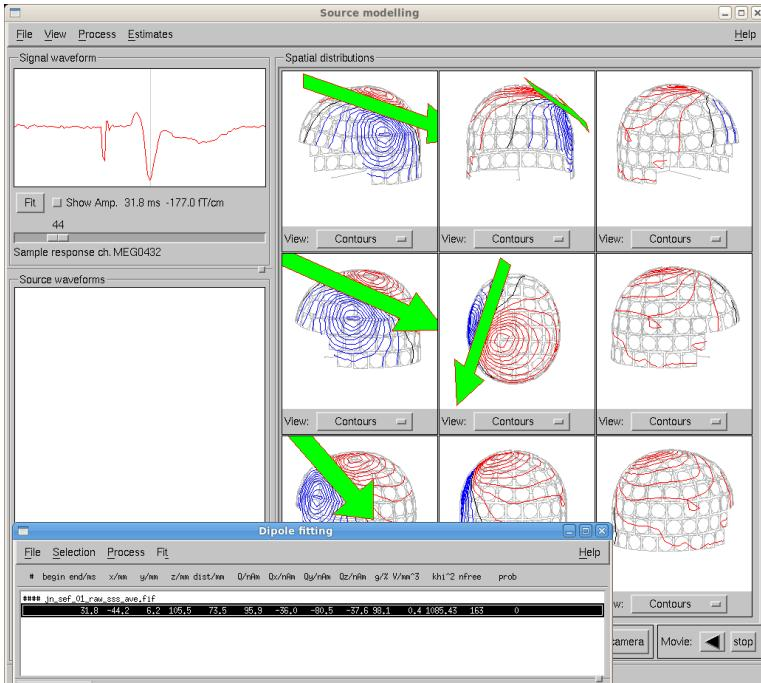

Figure 34: *Xfit* single dipole fitting at the 31 ms peak of somatosensory evoked responses, after selecting the channels on the left hemisphere.
- View the **Signal waveform** in the upper-left corner of the main window (Figure 34).
- A Dipole fitting window will appear containing all the location and statistical parameters of your dipole (Figure 34).
- (1) Time point or time range where the dipole was fitted.
- (2) Cartesian x-, y- and z coordinate of the source estimate.
- (3) Distance of the dipole from the sphere model origin.
- (4) The dipole moment [nAm].
- (5) x, y and z-components of the dipole moment vector.
- (6) Goodness of fit (g-value), or how large fraction of the variance of the measured data is accounted for by the dipole.
- (7) Confidence volume within which the dipole should lie with 95% certainty (sphere model).
- (8) Khi-square (χ^2) statistics and the number of degrees of freedom of the sphere model.